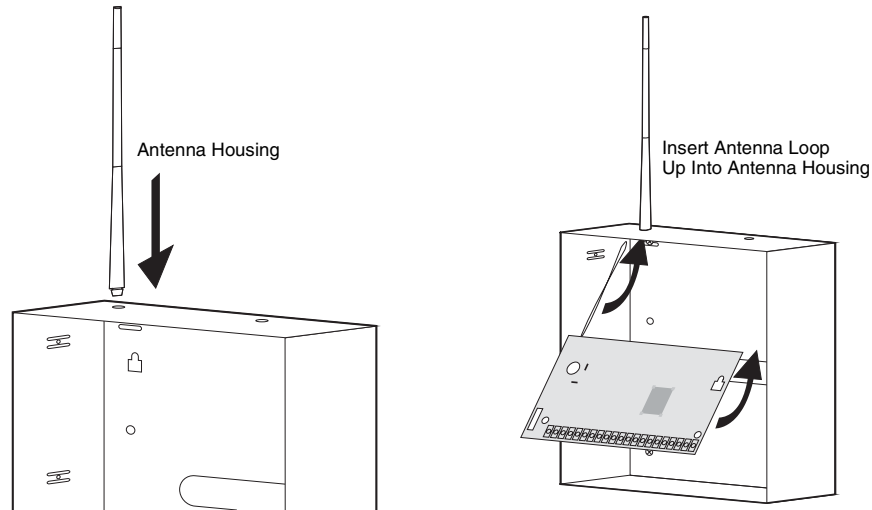

Figure 3. Installing the Antenna Housing and the Circuit Board
8. Install the antenna housing (included with the panel) by pushing it down into the top left hole of the cabinet until it snaps into place (see Figure 3).
9. Install the circuit board into the cabinet, inserting the loop antenna loop up into the antenna housing (see Figure 3), then secure the circuit board with the four mounting screws (included).